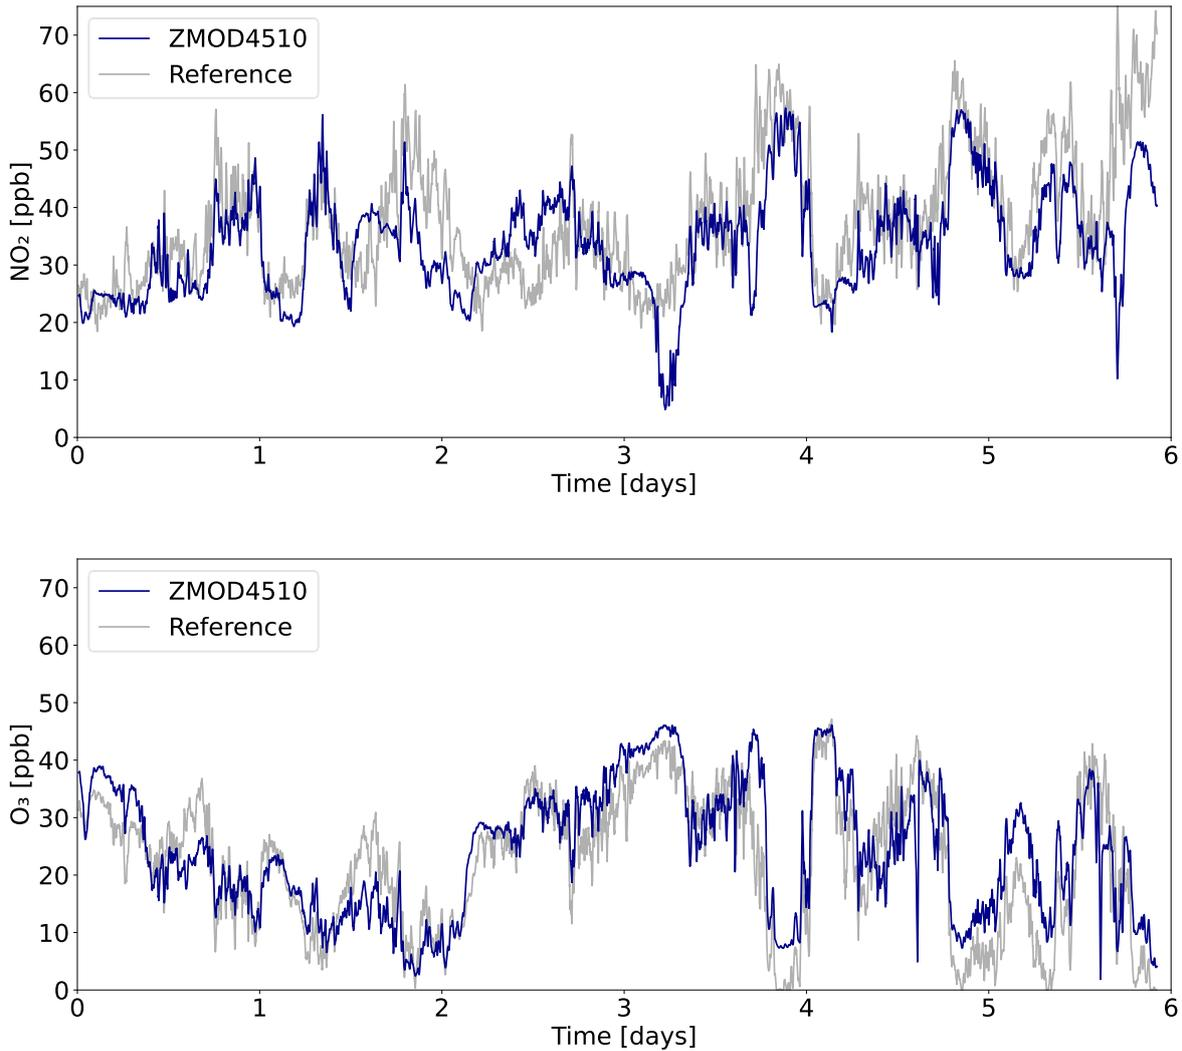

Figure 4. Nitrogen Dioxide and Ozone Course Compared to a Reference Instrument
The ZMOD4510 operates with an optimized temperature profile to detect signatures from gases. These unique signals are supplied to a highly trained machine learning system that uses of embedded artificial intelligence (AI) technology. These algorithms can differentiate and report nitrogen dioxide (NO2 O3 mode) and ozone concentrations (NO2 O3 mode and ULP O3 mode). They are tailored to real-world applications with the appropriate concentrations. Figure 4 shows a typical course of nitrogen dioxide and ozone concentrations determined with the ZMOD4510 in a real-world environment with selective reference instrumentation.